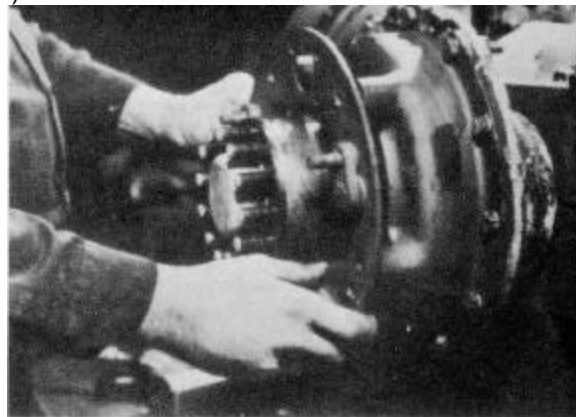

Figure 5-21
2. Pull the backing plate forward, away from the final drive gear housing and the two locating dowel pins (Fig. 5-21).